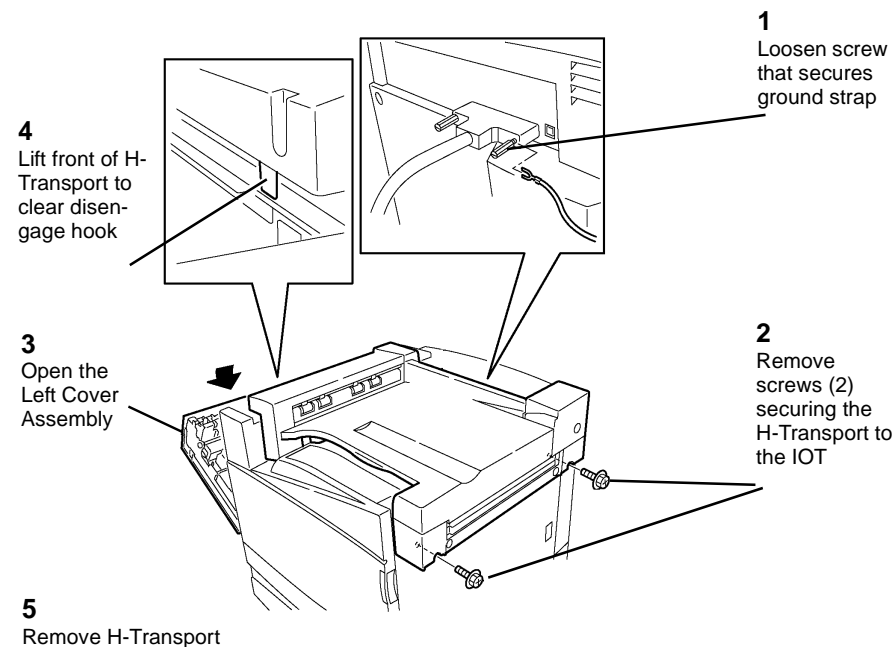

Figure 1 Removing the H-Transport
2. Remove the H-Transport (Figure 1).